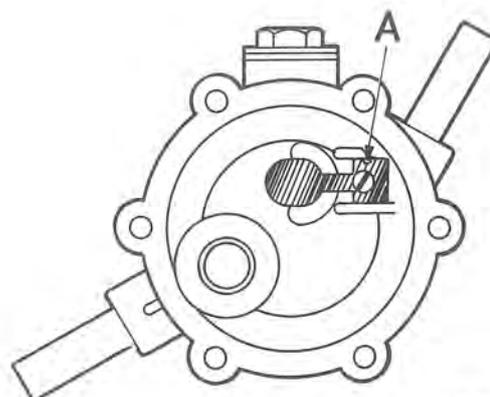

Fig. 2-90. Location of inlet valve
1. Fit the inlet valve, see Fig. 2-90, and the stop arm. Tighten the screw, but only sufficiently so that the spring lies well against the pump body.